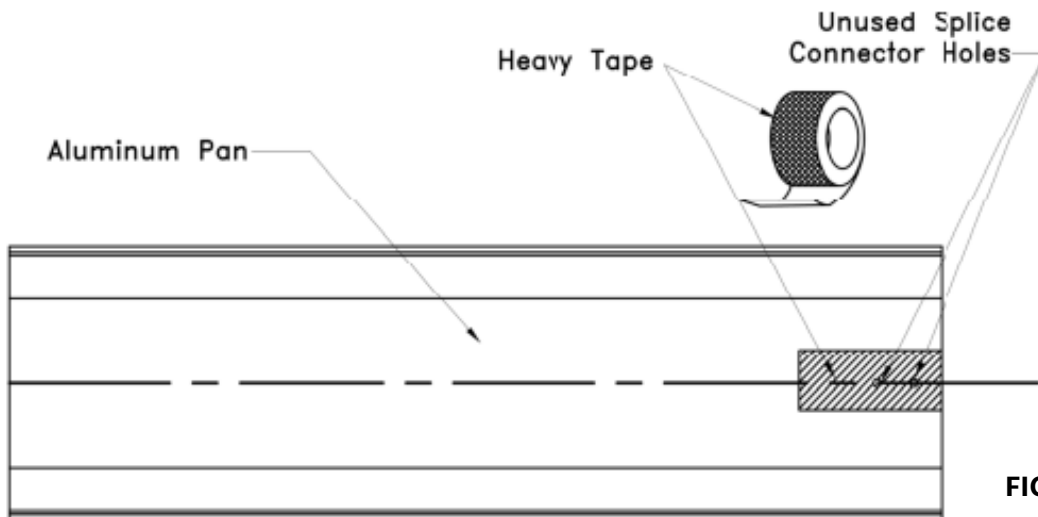

FIGURE 6
6. Use heavy tape to cover unused splice connector holes. (This will be at the first aluminum pan to be installed against the wall). **SEE FIGURE 6**